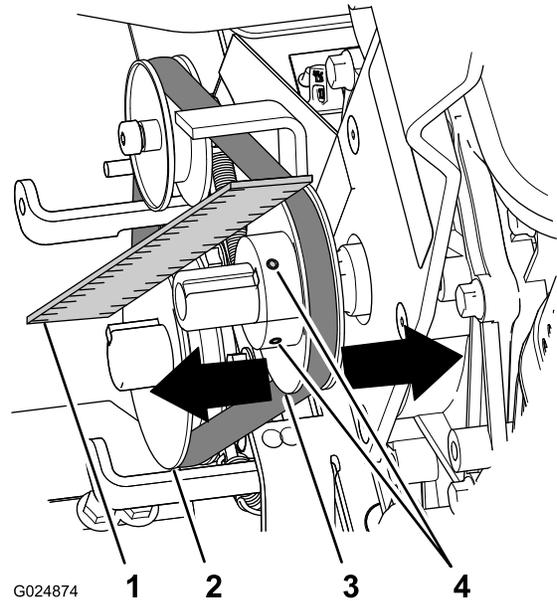

Figure 24
1. Place a straight-edge ruler across the engine pulley and the gearbox pulley (Figure 24).
- A. Loosen the 2 setscrews that secure the engine pulley to the engine shaft (Figure 24).
- B. Gently tap the engine pulley toward or away from the engine until the gearbox and engine pulleys align to the straight-edge ruler (Figure 24).
- C. Tighten the 2 setscrews that secure the engine pulley to the engine shaft (Figure 24).